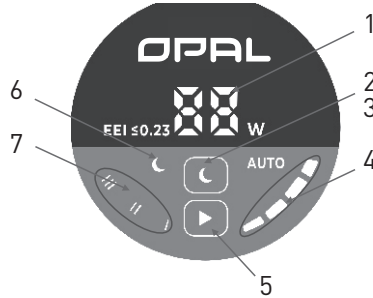

Fig.1 ARP control panel
Every time the push-button is pressed, see fig.1, pos. 5, the pump setting is changed. A cycle is eight button presses. See fig.2
4.5 Push-button for activation of Night SetBack  see fig.1, pos.5, **Push-button for activation of Night SetBack After the night mode is activated, light**  see fig.3) is lit up.